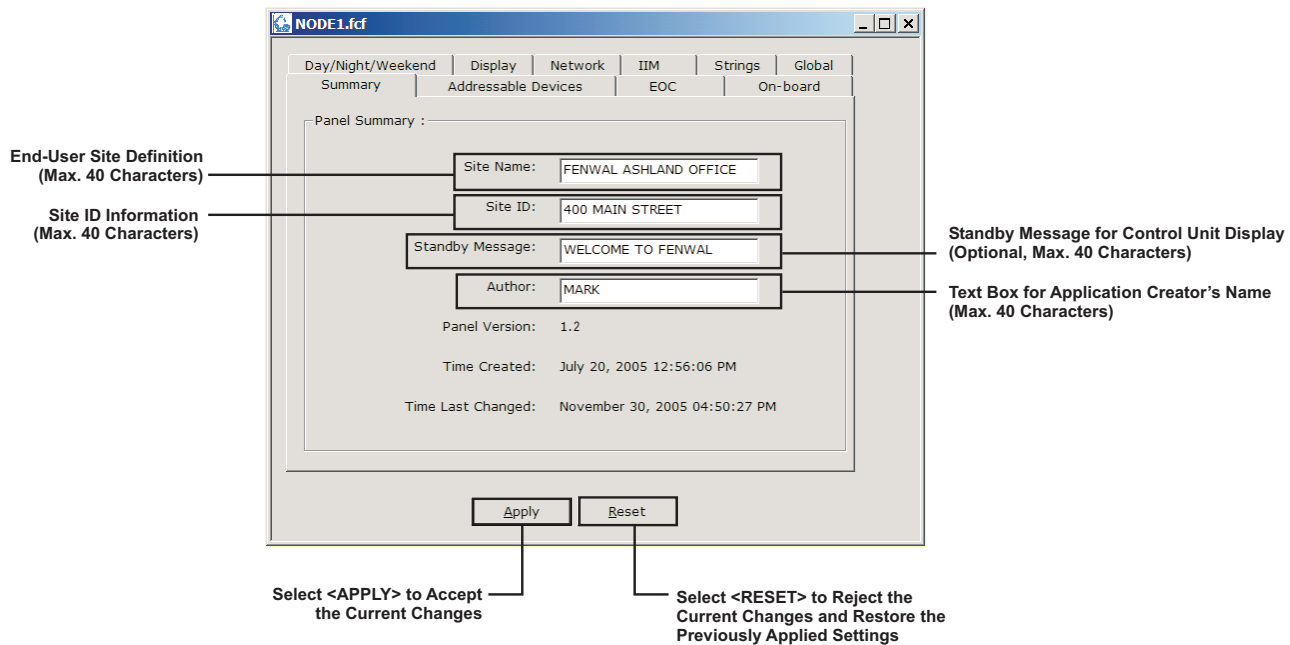

Figure 2-2. Summary Screen
- To create a new file: Select **File>New** or select the New File Icon on the toolbar (  ); Figure 2-2 displays.
- To open an existing file: Select **File>Open** or select the Open File Icon on the toolbar (  ). Select a file and click on **<Open>**; Figure 2-2 displays.